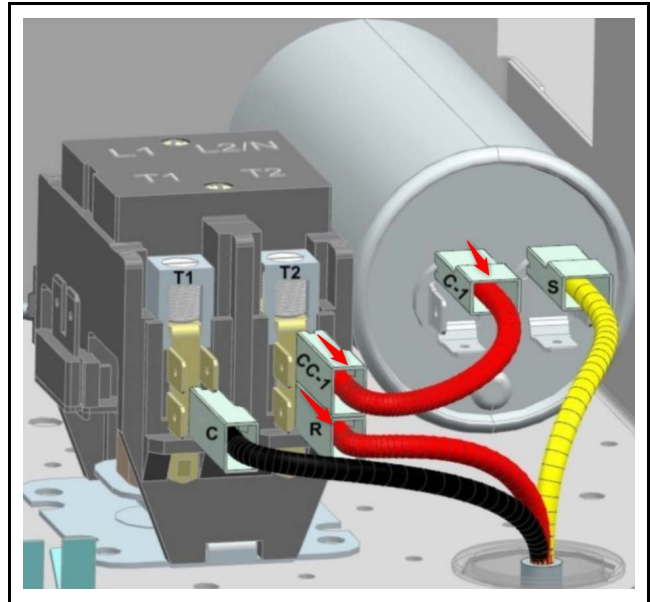

Fig. 11 Wire Removal at the Contactor
1. Perform the following at the main unit's control box (refer to Fig. 11):